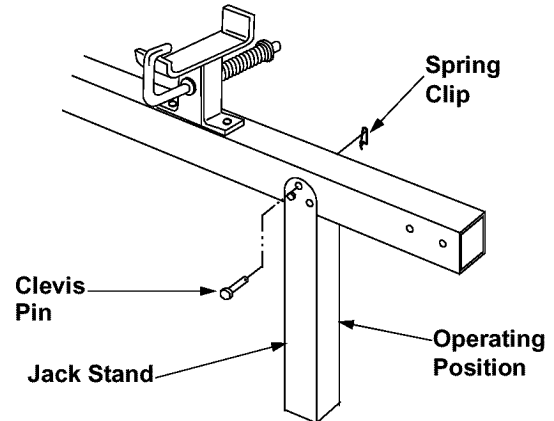

Figure 2
- Remove the spring clip and clevis pin and pivot the jack stand to the operating position. See Figure 2.
- Secure the jack stand in position with the clevis pin and spring clip. See Figure 2.